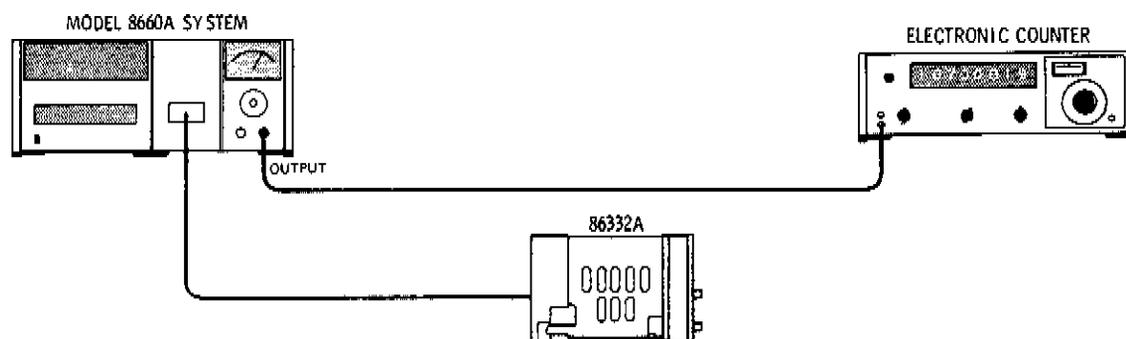

Figure 5-5. VCO Center Frequency Adjustment Setup
1. Connect the equipment as shown in Figure 5-5.